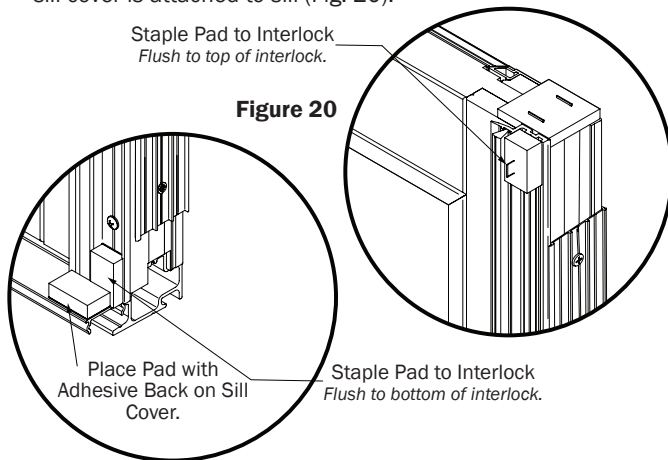

Figure 20
21. Attach dust pads after stationary panel is installed to frame and sill cover is attached to sill (Fig. 20).